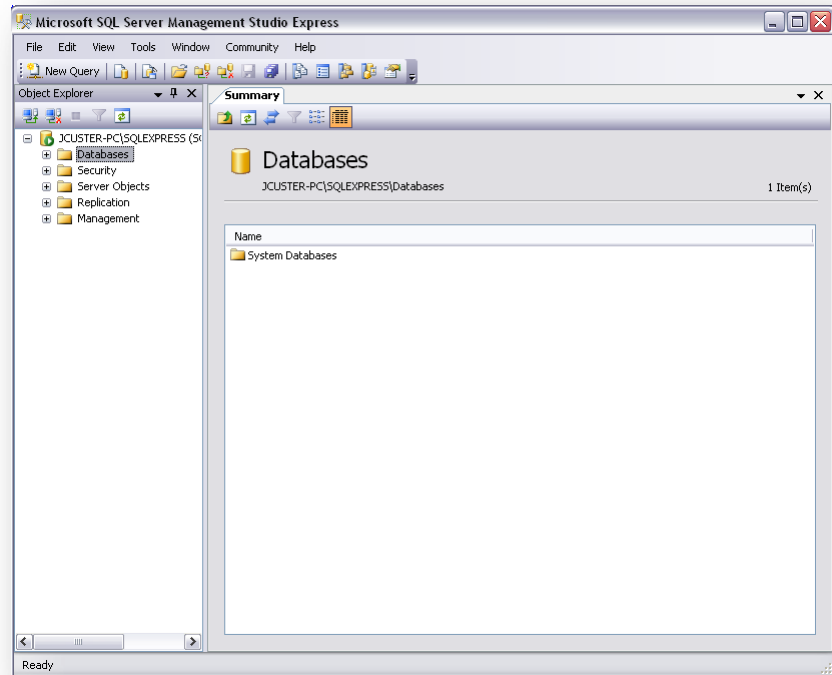

Figure 62 – SQL Server Management Studio
11. Click **Next** on the Error Reporting screen. See Figure 62.